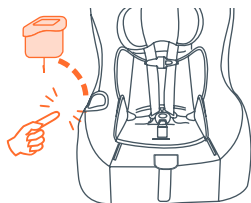

Fig. 47a
- Press tab on bottom of cup holder to release cup holder and pull up to remove (Fig. 47a).